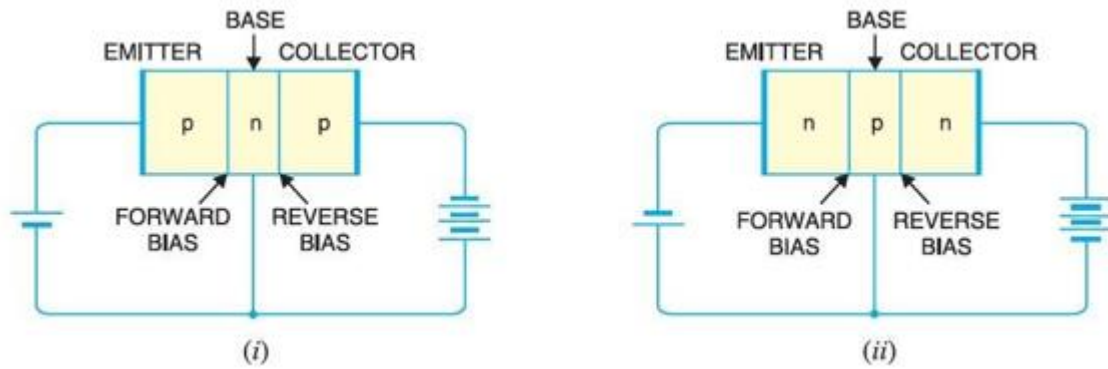

Fig. 22
In Fig. 22 (i), the emitter (p-type) of pnp transistor is forward biased and supplies holes to its junction with the base. Similarly, in Fig. 22 (ii), the emitter (n-type) of npn transistor has a forward bias and supplies free electrons to its junction with the base.
In Fig. 22 (i), the collector (p-type) of pnp transistor has a reverse bias and receives holes that flow in the output circuit. Similarly, in Fig. 22 (ii), the collector (n-type) of npn transistor has reverse bias and receives electrons.
1. The **base is much thinner than the emitter while collector is wider than both** (During transistor operation, much heat is produced at the collector junction. The collector is made larger to dissipate the heat) as shown in Fig.22. However, for the sake of convenience, it is customary to show emitter and collector to be of equal size.